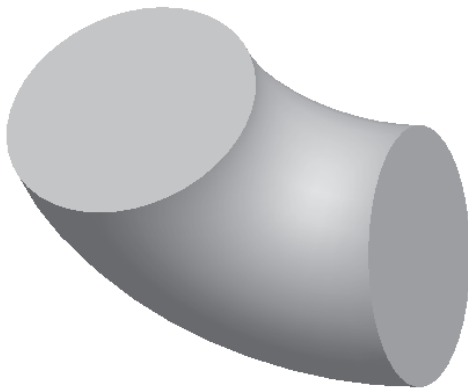

Figure 8-91 Trimetric view of the model
2. Choose the **Named View List** button from the **View** toolbar; the flyout is displayed. Next, choose the **Default Orientation** option from the flyout; the model orients in the drawing area, as shown in Figure 8-91.